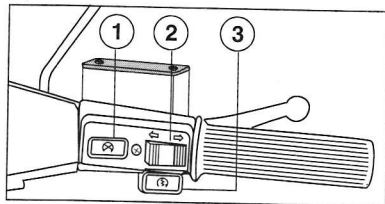

Fig. 16
**Right hand side of the handlebar** (Fig. 16).